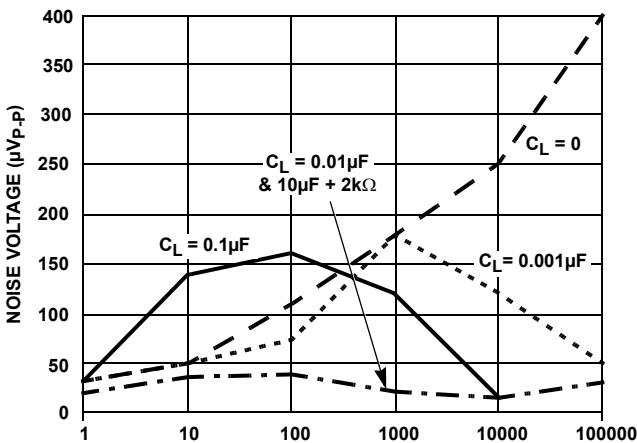
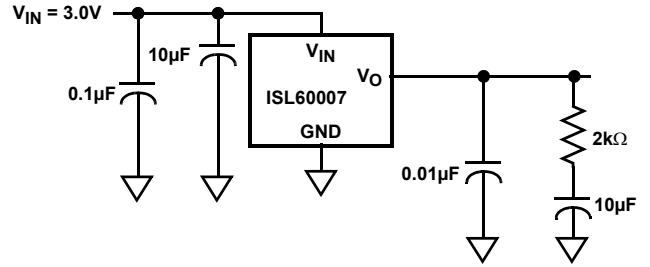

FIGURE 16. NOISE REDUCTION
FIGURE 17.
*Also see Figure 17 in Applications Information.
The output noise voltage in a 0.1Hz to 10Hz bandwidth is typically 30µVp-p. This is shown in the plot in the Typical Performance Curves. The noise measurement is made with a bandpass filter made of a 1 pole high-pass filter with a corner frequency at 0.1Hz and a 2-pole low-pass filter with a corner frequency at 12.6Hz to create a filter with a 9.9Hz bandwidth. Noise in the 10kHz to 1MHz bandwidth is approximately 400µVp-p with no capacitance on the output, as shown in Figure 16 below. These noise measurements are made with a 2 decade bandpass filter made of a 1 pole high-pass filter with a corner frequency at 1/10 of the center frequency and 1-pole low-pass filter with a corner frequency at 10 times the center frequency. Figure 16 also shows the noise in the 10kHz to 1MHz band can be reduced to about 50µVp-p using a 0.001µF capacitor on the output. Noise in the 1kHz to 100kHz band can be further reduced using a 0.1µF capacitor on the output, but noise in the 1Hz to 100Hz band increases due to instability of the very low power amplifier with a 0.1µF capacitance load. For load capacitances above 0.001µF the noise reduction network shown in Figure 17 is recommended. This network reduces noise significantly over the full bandwidth. As shown in Figure 16, noise is reduced to less than 40µVp-p from 1Hz to 1MHz using this network with a 0.01µF capacitor and a 2kΩ resistor in series with a 10µF capacitor.